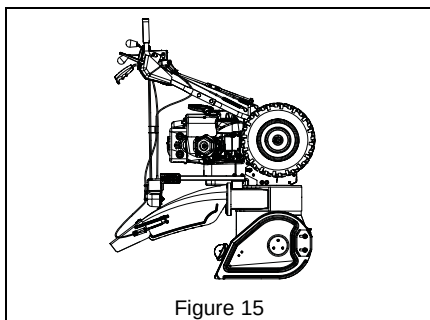

Figure 15
See Figure 15.
1. Place unit in service position (see Figure 15).